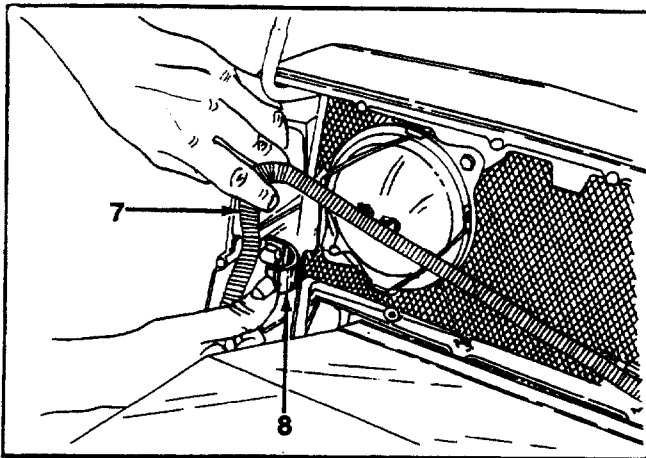

FIGURE 5.
6. Pull the cable clamp back enough to allow removal of headlight wire harness from grille. See figure 5.